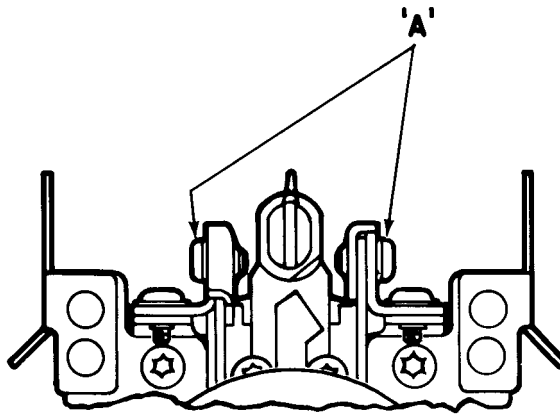

Figure 5.
2. Refer to figure 5 and 6. To correct top-to-bottom shading:
- a. Loosen screws (A) slightly on both sides of the hammer guide.
- b. Using a small screwdriver in eccentric slot (B), adjust the hammer pitch angle.
**NOTE:** After each change in pitch, screws (A) should be tightened and a row of "H's" printed.